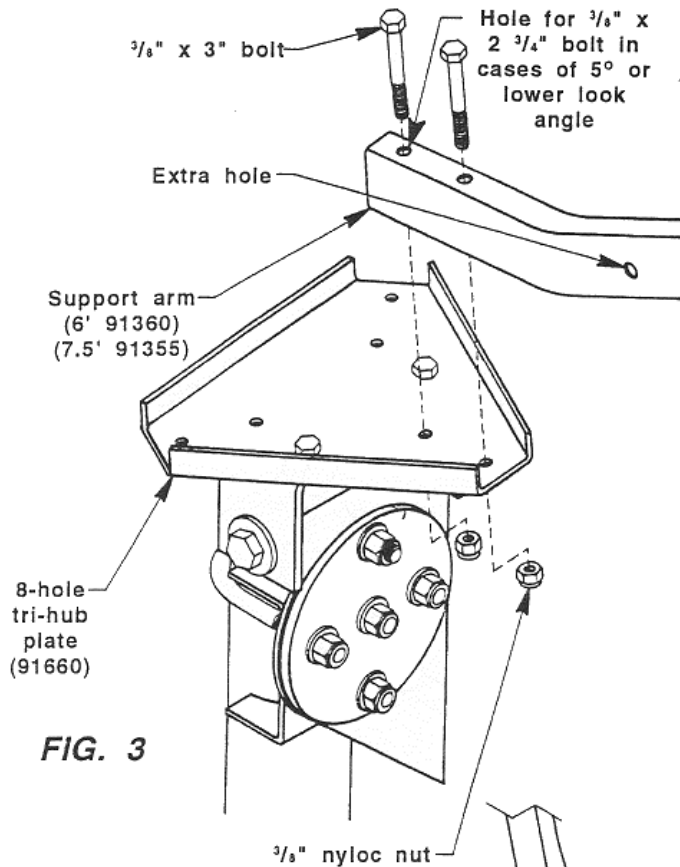

FIG. 3
1. Attach three support arms to the 8-hole tri-hub plate using six $\frac{3}{8}$ " x 3" bolts and six $\frac{3}{8}$ " nyloc nuts. Do not tighten. (See Fig. 3)
a.) Support arm with the extra hole should be the horizontal arm. (See Fig. 3)
b.) In cases of 5° look angles or lower, attach support arm with the extra hole using $\frac{3}{8}$ " x 2 $\frac{3}{4}$ " bolt instead of $\frac{3}{8}$ " x 3" bolt. (See Fig. 3)